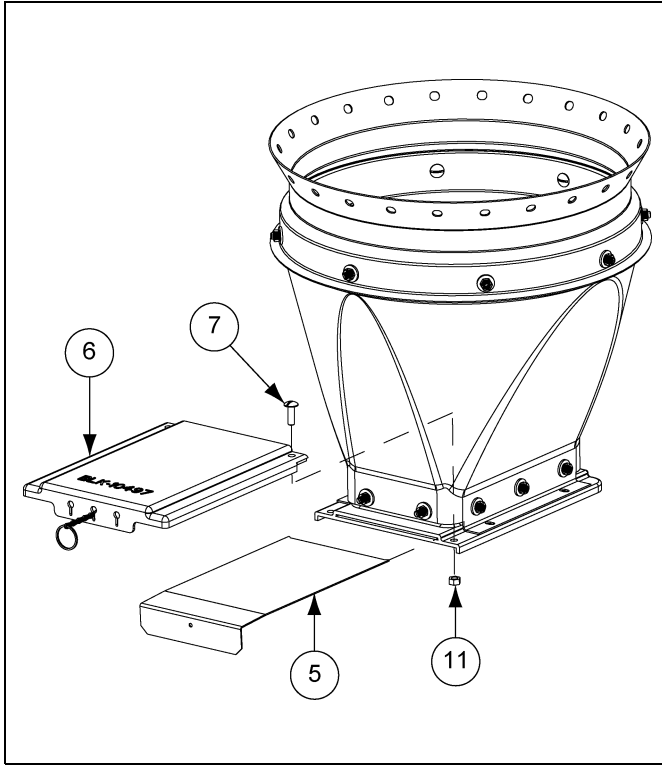

Figure 4
Insert the slide into the Transfer Plate. The slide must be in its operating position prior to attaching the slide shield to the Transfer Plate. Use two (2) 5/16"-18 x 1" truss head tap bolts to mount the slide shield. (See Figure 4.)